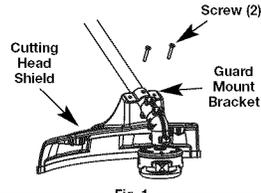

Fig. 1
- Place the cutting head shield onto the guard mount bracket, making sure to align the holes on the shield with the holes in the guard mount bracket. (Fig. 1)